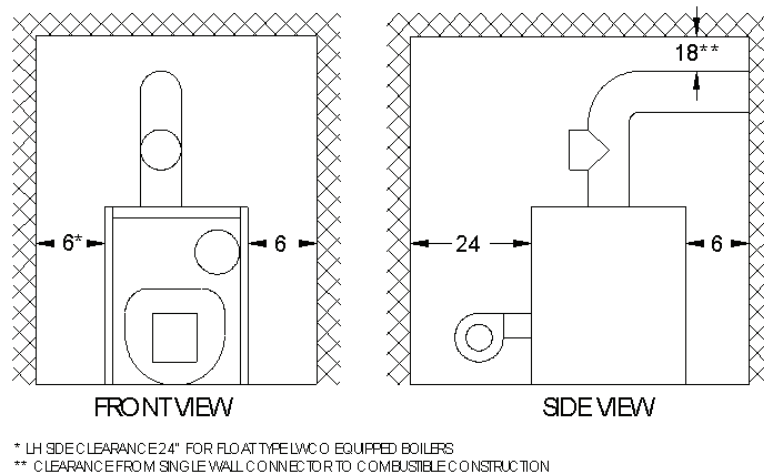

FIGURE 5.1: CLEARANCES
- Observe the minimum clearances shown below. Except as noted, these clearances apply to all combustible construction, as well as noncombustible walls, ceilings and doors. Also see Figure 5.1.